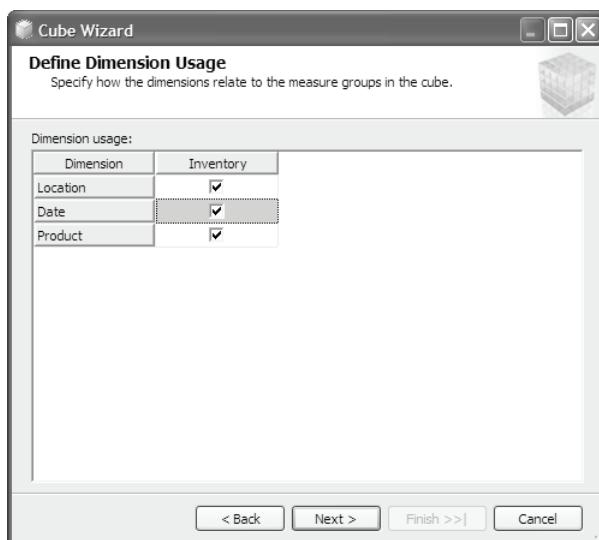

Figure 6.9 Use the Define Dimension Usage step to relate dimensions to measure groups.
4. Use the Define Dimension Usage step (Figure 6.9) to tell the Cube Wizard how the cube dimensions relate to the measure groups. This is equivalent to the Dimension Usage tab in the Cube Designer. Check the intersecting checkbox between the Date dimension and the Inventory measure group. Make a mental note that this relationship requires an ETL task to look up the dimension key of the Time dimension when loading the fact records.